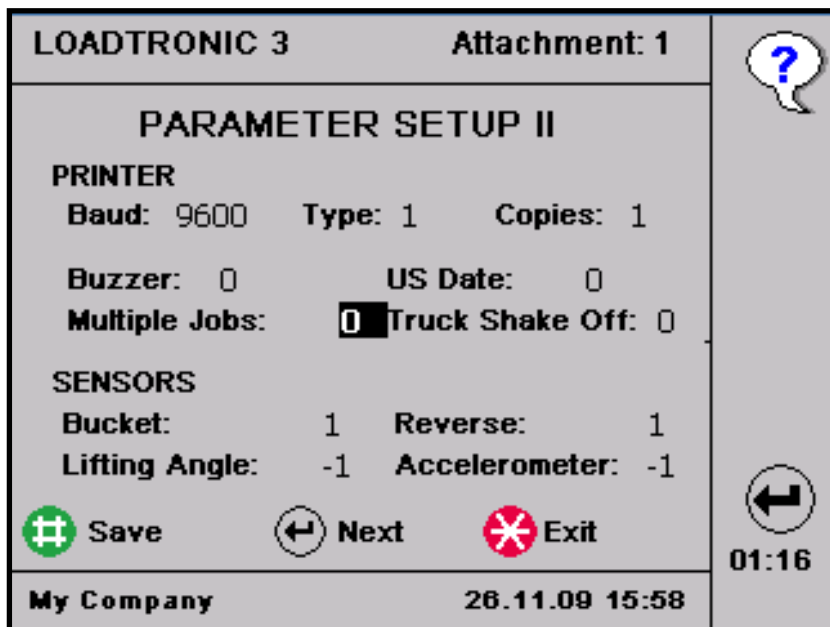

Figure 3-6 Open *Main Menu – Setup – Parameter Setup II* to set the maximum number of active jobs.
- Weighing is completed when the weight of the current load is added to the running total. The buzzer will give a sound signal if activated in Parameter Setup II, refer Figure 3-6 and LOADTRONIC 3 Installation Guide.
of allowed active jobs can be set in *Parameter Setup II*, refer Figure 3-6 and LOADTRONIC 3 Installation Guide.
With the LOADTRONIC 3 system, the operator can select between shake off to truck or heap. The default setting is configured in *Parameter Setup II*, refer Figure 3-6. Press *F2* to toggle between the two functions in the main menu. The currently selected shake off function is shown with a symbol of a heap or a truck, refer Figure 2-3. Press *F1/Clear* or *F2/Print* to clear the job when complete, the shake off function is set to default.
If *Truck shake off* is set to 0 in *Parameter Setup II*, refer Figure 3-6, the operator can shake off part of the load back to the heap. The remaining material in the bucket is reweighed.
If shakeoff to truck has been set in *Parameter Setup II*, refer Figure 3-6, the operator can shake off part of the load onto the truck; the material delivered to the truck is added to the running total.